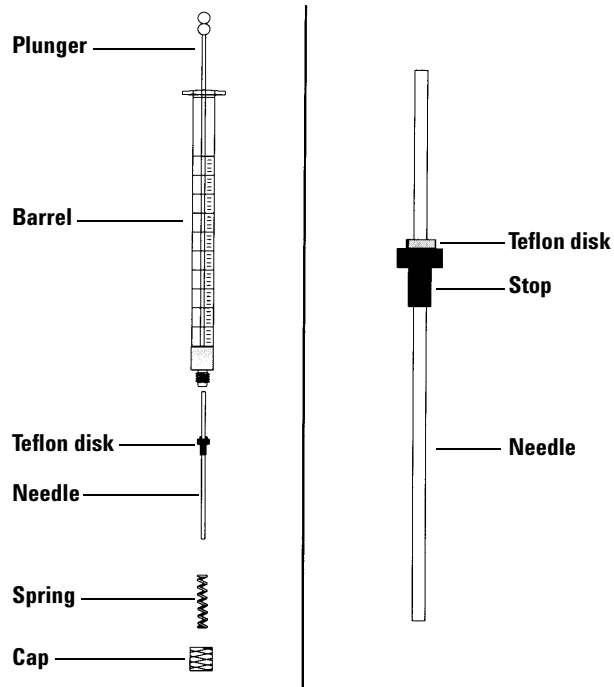

Figure 43 Syringe parts
To insert a needle into a syringe barrel (Figure 43):
- 2 Make sure the needle has the Teflon[®] disk as shown in Figure 43. If the syringe barrel does not have the Teflon[®] disk, use the instructions in the syringe box to wrap the needle yourself.